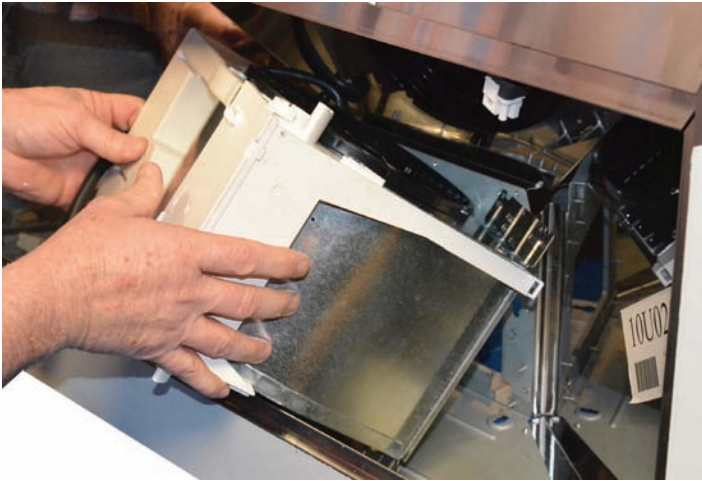

Figure 3
6. Pull motor out, see figure 3.